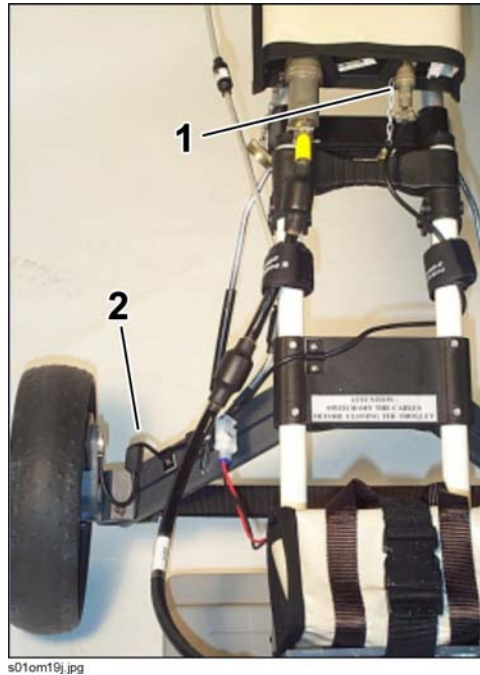

Fig. 4-8 – Connecting the position sensor
- The system position sensor is situated inside one of the trolley wheels and turns in unison with it (Fig. 4-8). The sensor measures all movements of the 2150GR from its starting point, which coincides with the system centerpoint (which is the center of the antenna).
- The sensor cable (2) is connected to the WHEEL port (1) on the Control Unit.